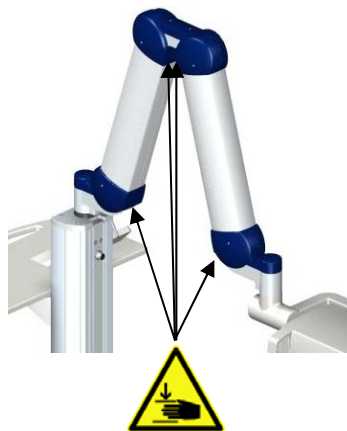

Figure 1: The bracket arm in a parked position incl. arrows indicating potential areas where fingers can get trapped
- Depending on the positioning, the bracket arm comprises slots below the connecting portion of the bracket arm and to the right of the support tube. Ensure when setting up or adjusting the device that fingers or other objects are **NOT** placed in the ventilation slots (Figure 1).
- Please note that the mobile lamp must be placed in its parking position (see figure 1) during transport, in order to avoid a risk of tipping over.